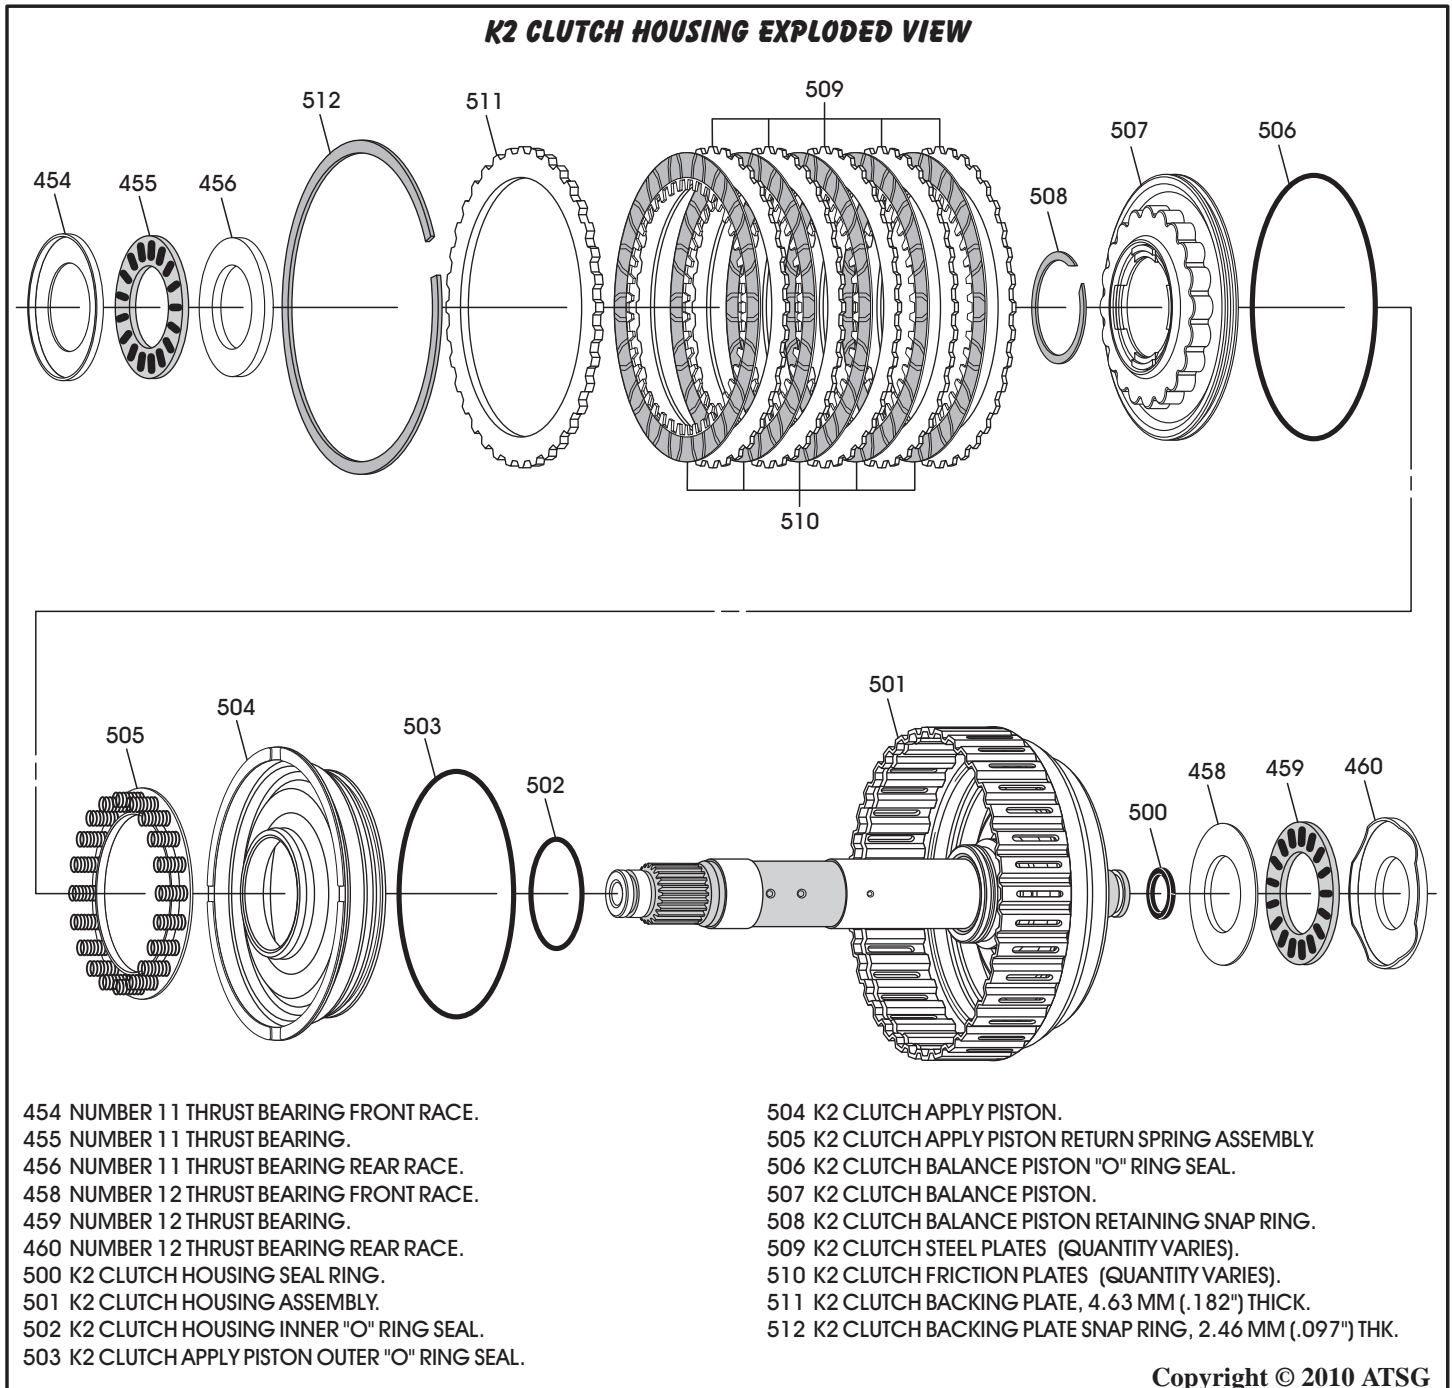

Figure 88
1. Disassemble the K2 clutch housing assembly using Figure 88 as a guide.